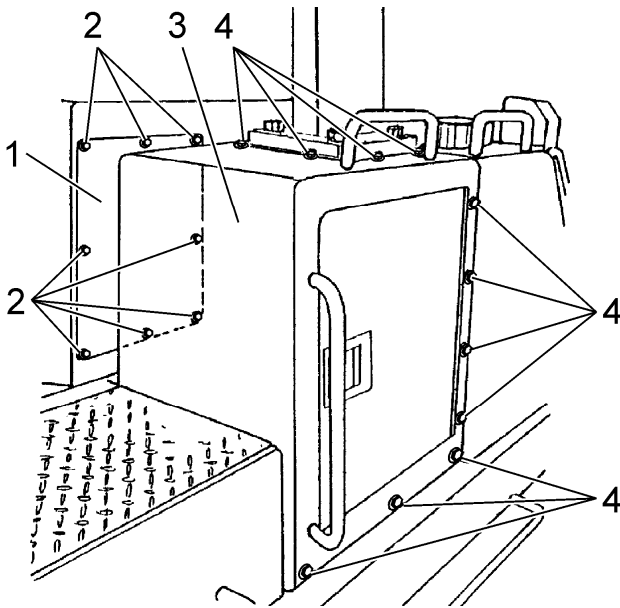

Fig. 7C.34. Disassembly Access Cover to Drive Train Control Valve
2. Unscrew bolts (2) and remove access cover (1) in order to obtain access to mounting points of the drive train lock solenoid valve.
3. Disconnect the electrical wire (5, Fig. 7C.35) from the filter base. Unscrew bolts (2) fastening filter base to the filter bracket (3) and allow the filter (4) to be supported by the hoses.